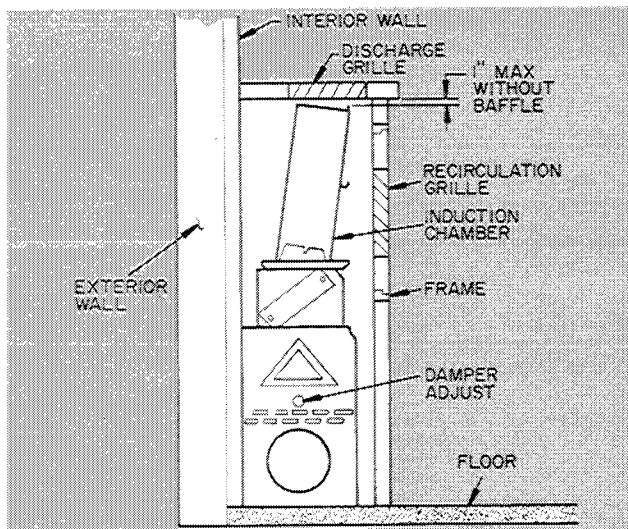

Fig. 3 – Typical Installation of 36CS Unit
3. Prepare opening in side wall in accordance with dimensions indicated in Fig. 1 and proper installation practice for a furred-in space. (See also Fig. 3.)